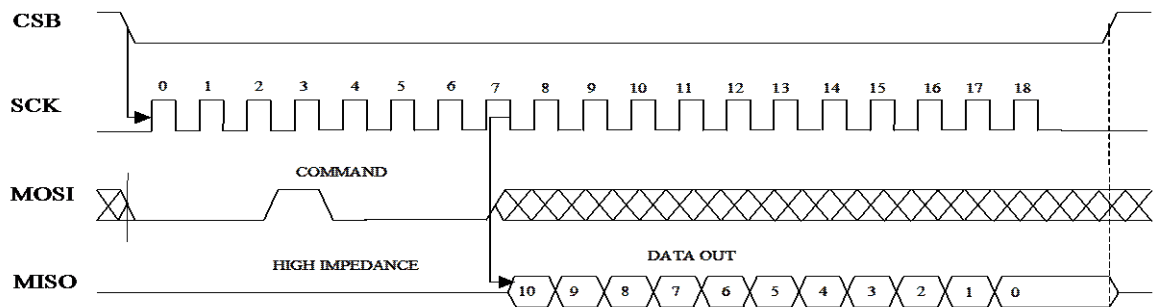

Figure 10. Command and 11 bit acceleration data transmission over the SPI
**Read temperature data register (RWTR)** reads temperature data register during normal operation without affecting the operation. The temperature data register is updated every 150  $\mu$ s. The load operation is disabled whenever the CSB signal is low, hence CSB must stay high at least 150  $\mu$ s prior to the RWTR command in order to guarantee correct data. The data transfer is presented in Figure 10 below. The data is transferred MSB first. In normal operation, it does not matter what data is written into temperature data register during the RWTR command and hence writing all zeros is recommended.